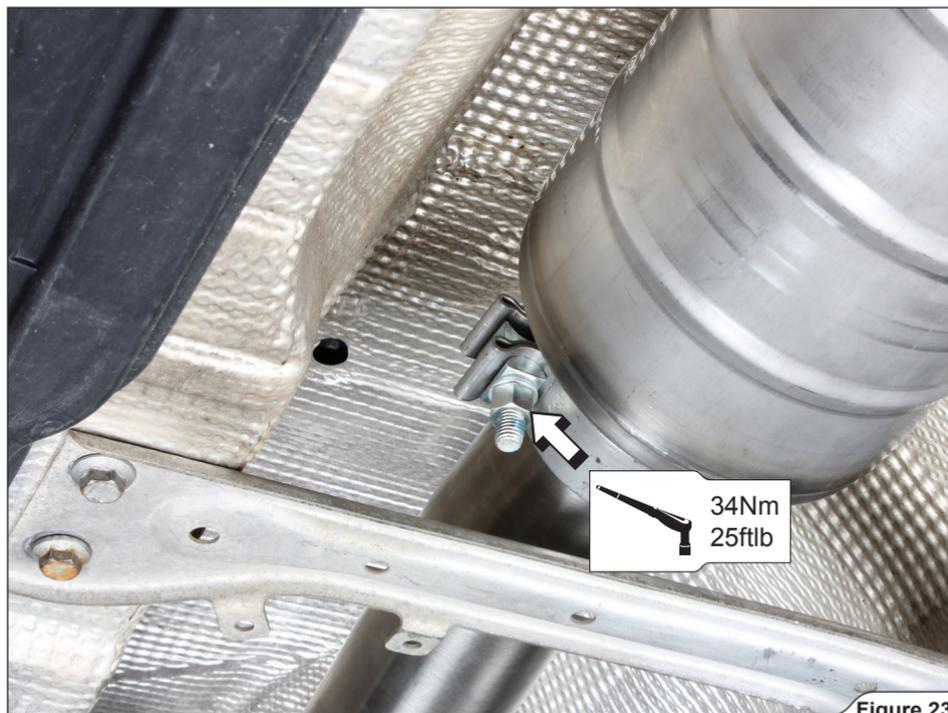

Figure 23
11. Tighten the clamp at the Link Pipe - Down Pipe joint to the specified torque (**Figure 23**).